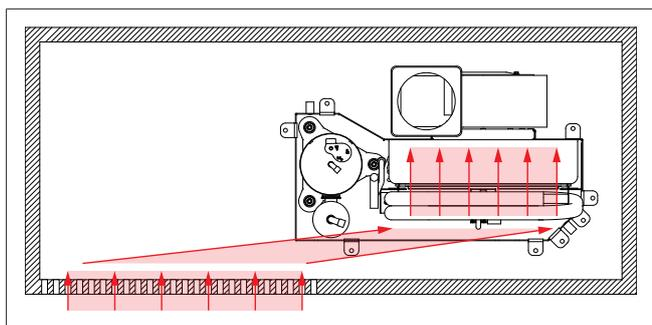

Fig. 9 Mount air inlet grille offset
- ▶ The air inlet grille should be mounted offset so that the air flowing in does not flow directly into the evaporator inlet. This enables the intake noises from the fan to be considerably reduced (see Fig. 9).